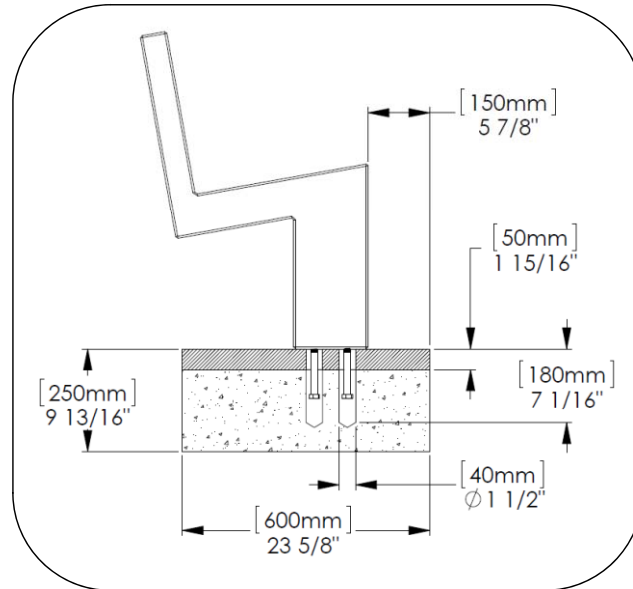
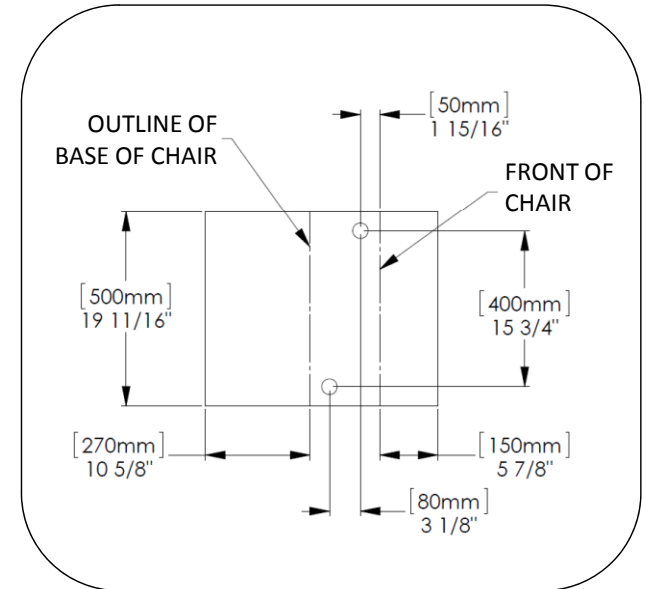

Fig. 2 – Side elevation of footing detail
Fig. 3 – Plan view of footing detail
3. Drill holes according to Fig. 2 and Fig. 3.